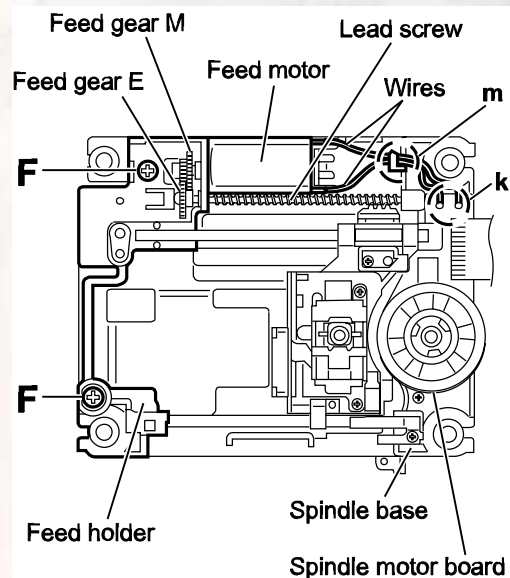

Fig.11
- (3) Remove the wires from the soldered section **k** on the spindle motor board. (See Fig.11.)
When attaching the feed motor, pass the wire through the section **m** on the spindle base. (See Fig.11.)
- (4) Remove the feed holder, feed motor, lead screw, feed gear **E** and feed gear **M** at the same time after removing the two screws **F** attaching the feed holder. (See Fig.11.)
3.2.7 Removing the spindle motor board (See Figs.11 and 13)
- (1) From the top side of the traverse mechanism assembly, remove the wires from the soldered section **k** on the spindle motor board. (See Fig.11.)